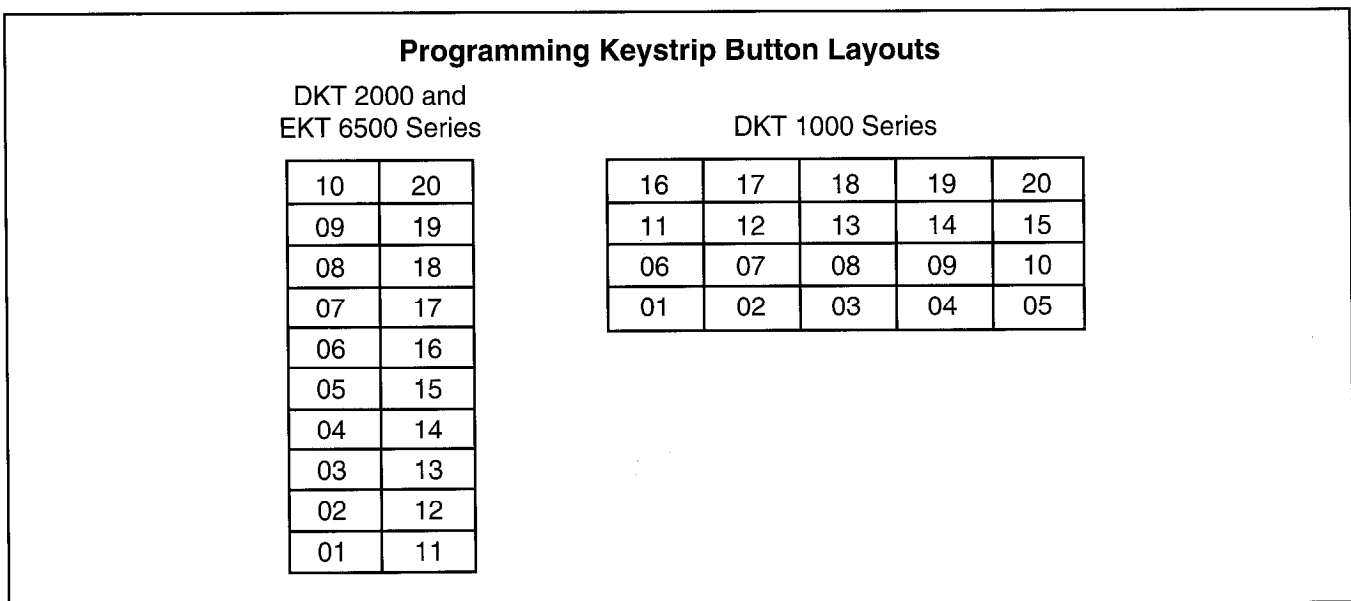

FIGURE 1-2
3.24 Telephone Programming Template. Special programming buttonstrip templates (Figure 1-2) are provided with your system. A template must be on the programming telephone to properly enter data from the System Record Sheets. The templates assign numbers to each of the 20 buttons on the telephone that coincide with tables found in the record sheets.